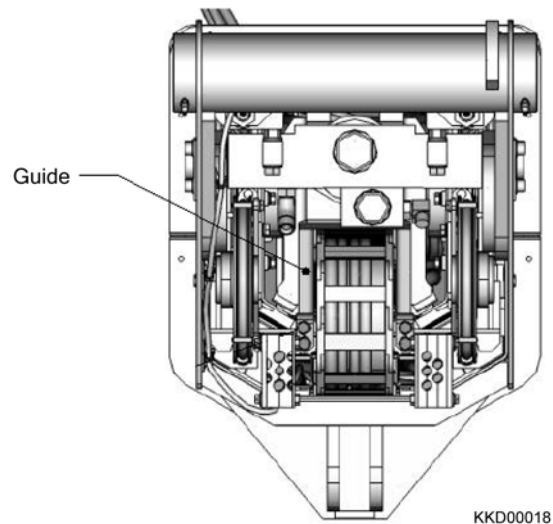

Fig. 2-43
- 22) Take the guide fixed to the tail end of 3rd boom section off. (Fig. 2-43)